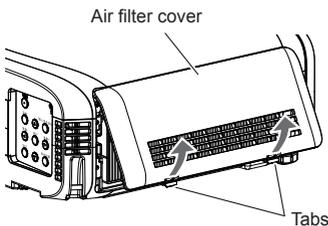

Fig. 1
- 2) Remove the air filter cover (Fig. 1).**